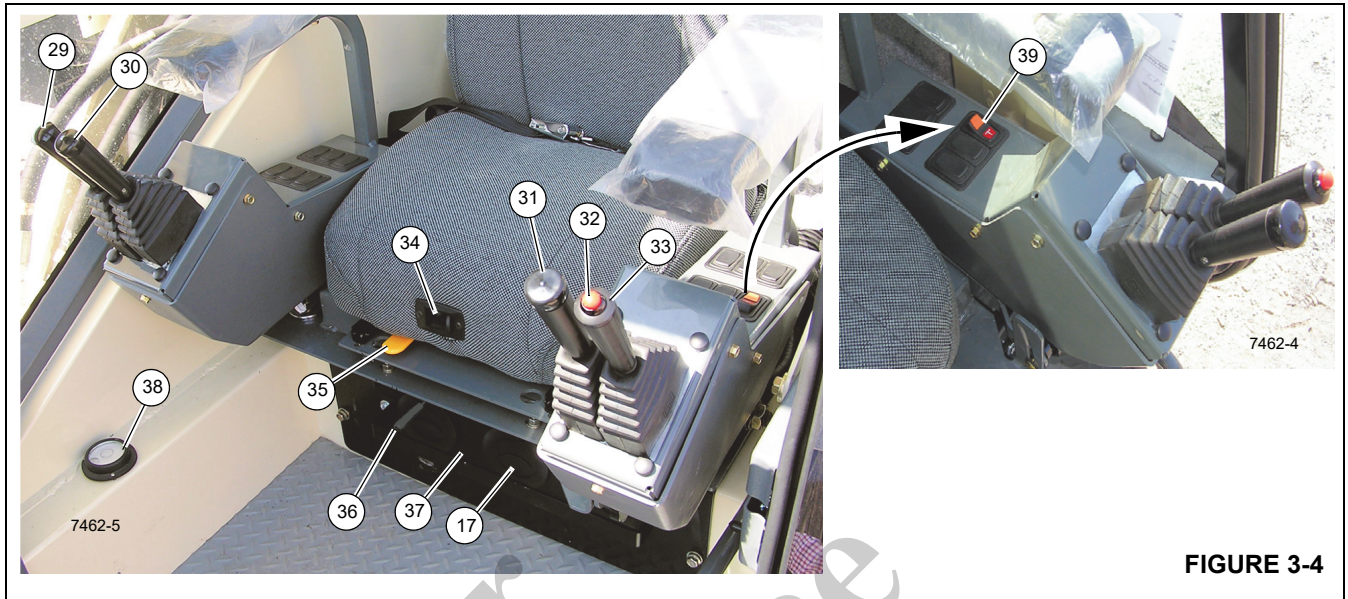
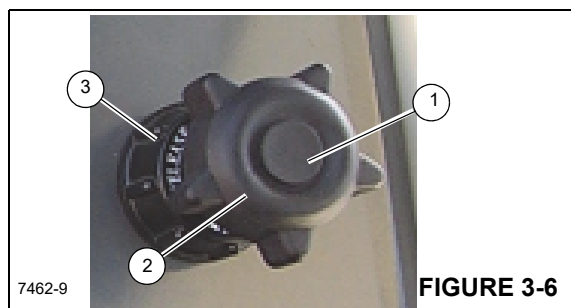

FIGURE 3-4
FIGURE 3-6
The secondary level indicator is located in the crane cab (38, Figure 3-4)
The foot throttle (4, Figure 3-4) is located on the crane cab floor and is used to control the engine speed. Depress the
The hand throttle (11, Figure 3-4) must be positioned as shown in Figure 3-6 to operate the foot throttle properly.
The push/pull hand throttle (11, Figure 3-4) is located on the crane cab console and has the following functions.
**Increase Engine Speed** - Push in and hold the center button (1, Figure 3-6); pull out on the knob (2) to accelerate the engine. Releasing button (1) will lock knob in place and maintain engine speed.
**Decrease Engine Speed** - Push in and hold the center button (1, Figure 3-6); push the knob (2) in to slow the engine speed.
**Incremental Speed Adjustment** - Rotate knob (2, Figure 3-6) clockwise to increase speed and counterclockwise to decrease engine speed.
The hand throttle must be positioned as shown in Figure 3-6 to operate the foot throttle (4, Figure 3-4) properly.
The radio remote switch (19, Figure 3-4) is used to enable the radio remote controls. The crane function power switch, crane ignition (13) and truck ignition must all be OFF before the crane can be operated with a radio remote control.
The boom lift control lever (29, Figure 3-4) is located on the right armrest and is used to raise and lower the boom. Push the lever forward to lower the boom and pull back to raise the boom.
The hoist control lever (30, Figure 3-4) is located on the right armrest. Push forward to lower the load and pull the lever back to raise the load.
When equipped *without* the auxiliary hoist the telescope boom control lever (31, Figure 3-4) is on the left armrest. Push the lever forward to extend the boom and pull back to retract the boom.
If equipped *with* an auxiliary hoist the control lever (31, Figure 3-4) is on the left armrest, positioning the lever
The warning horn button (32, Figure 3-4) is located on the swing joy stick. Push the switch to sound the horn to warn fellow workers of pending movement of crane.